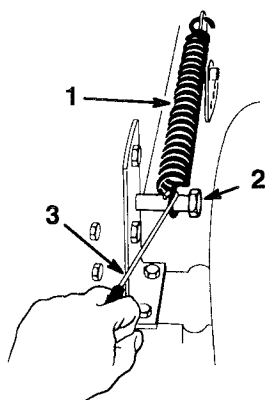

Figure 38
3. Remove the height-of-cut lift assist spring from the retaining bolt (Fig. 38), using the spring tool provided with the machine. The spring is between the frame and the right rear wheel.
12. Move the height-of-cut lever (deck lift) into the "D" notch. Hook lift assist spring onto retaining bolt for storage (Fig. 38).